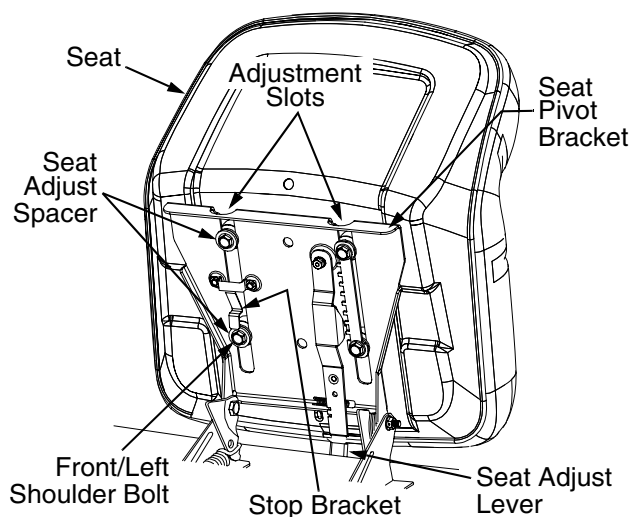

Figure 1
2. Pivot the seat pivot bracket partially upward. Refer to Figure 1.
6. Continue to push the seat forward in the pivot bracket slots until the front/left shoulder bolt of the seat assembly passes forward of the stop bracket on the seat pivot bracket. See Figure 1.